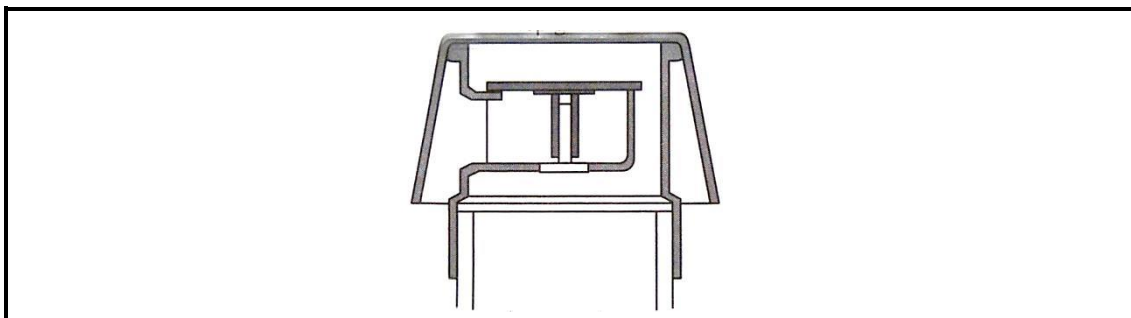

FIGURE 5.1
- 5.1 Answer the following questions with regard to the drainage fitment in FIGURE 5.1.